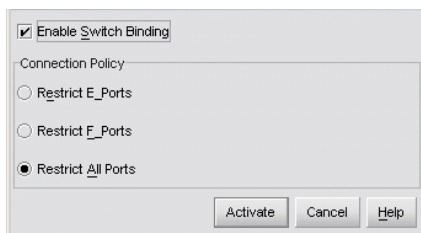
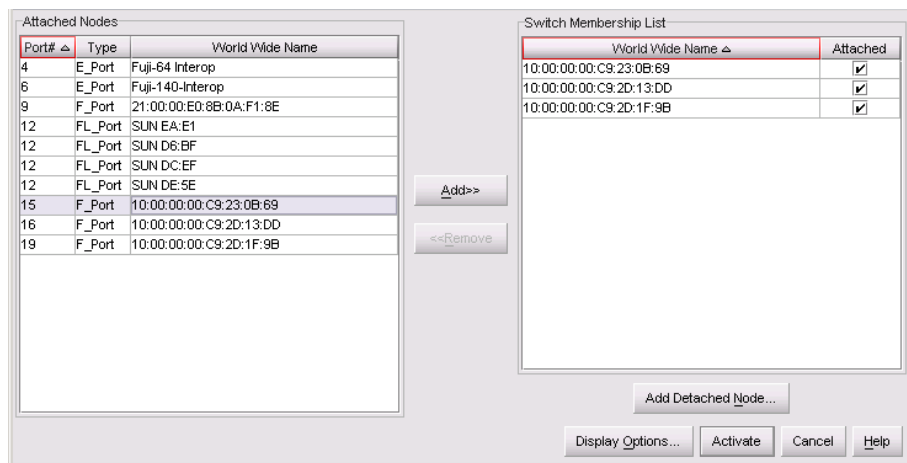

Figure 2-47 Switch Binding - Change State Dialog Box
Figure 2-48 Switch Binding - Membership List Dialog Box
2. At the *Hardware View*, select *Switch Binding*, then *Change State* from the *Configure* menu. The *Switch Binding - Change State* dialog box displays (*Figure 2-47*).
If the director is online, binding populates a membership list at the *Switch Binding - Membership List* dialog box displays (Figure 2-48) with WWNs of devices connected to the director. The list is modified by the connection policy set in the *Switch Binding - Change State* dialog box (Figure 2-47).
2. At the *Hardware View*, select *Switch Binding*, then *Edit Membership List* from the *Configure* menu. The *Switch Binding - Membership List* dialog box displays (Figure 2-48). WWNs of devices that are allowed to connect to director ports appear in the *Switch Membership List* panel.